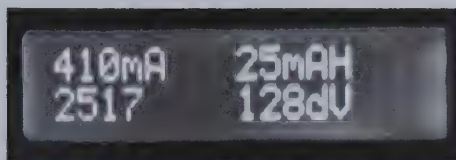

Figure 7—Display with the A-H meter in operation.
ten, it would equal millihours elapsed time. The picture of the LCD (Figure 7) shows the appearance of the display. A serial LCD kit (ref. 2) is available that adds to the building experience.